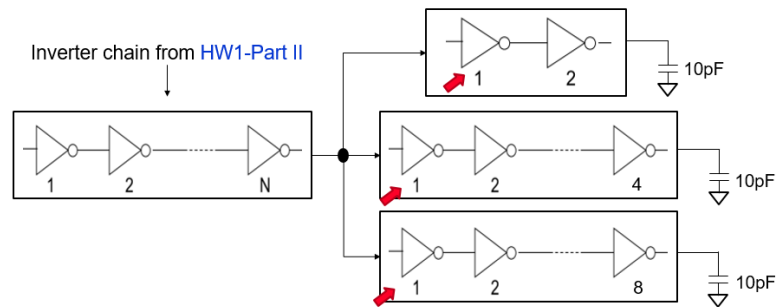

Fig. 3
- Complete the layout of Fig. 3. Show the figure of your layout and DRC/LVS report. (15%) and measure the area. (2.5%)